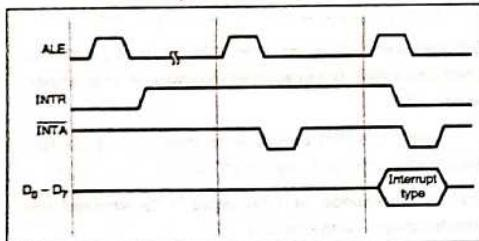

Fig. 7.6.2 : Interrupt acknowledge machine cycle
- (1) When 8259 receives an interrupt signal on one of its IR (Interrupt request) inputs, it sends an interrupt request signal to INTR input of 8086.
- (2) If IF flag is set, then 8086 responds to 8259, which is diagrammatically presented in Fig. 7.6.2.